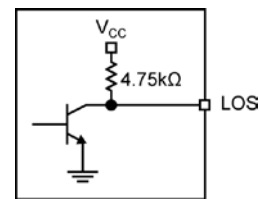

Figure 5. LOS Output Structure
The SY88313BL generates a chatter-free LOS open-collector TTL output with an internal $4.75\text{k}\Omega$ pull-up resistor as shown in Figure 5. LOS is used to determine that the input amplitude is large enough to be considered a valid input. LOS asserts high if the input amplitude falls below the threshold set by LOS_{LVL} and de-asserts low otherwise. LOS can be fed back to the enable bar (EN) input to maintain output stability under a loss of signal condition. /EN de-asserts the true output signal without removing the input signals. Typical 3.4dB LOS hysteresis is provided to prevent chattering.